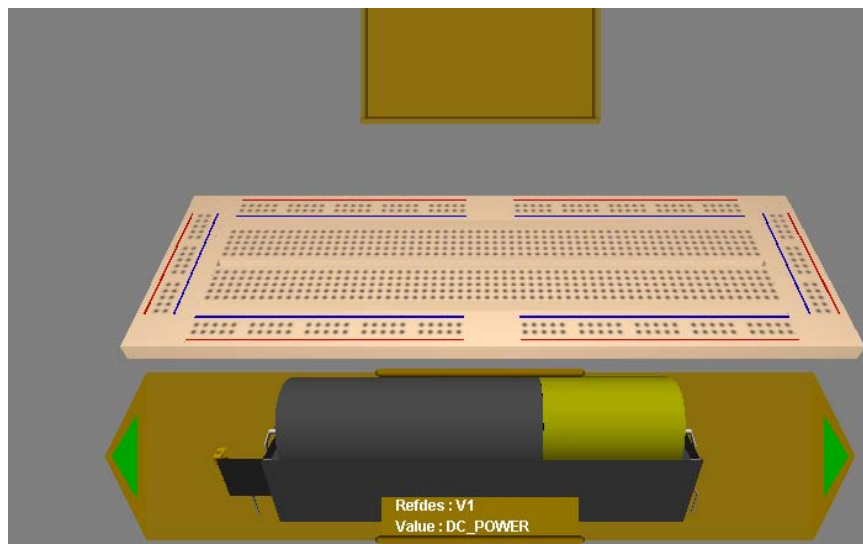

Figure 18. The Breadboard view in MultiSim
1. Left-click on the Breadboard icon  in the **Main Toolbar** to open the Breadboard view. Figure 18 shows the breadboard view.